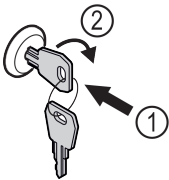

Fig. 103
- ▶ Insert key Fig. 103 (1).
- ▶ Turn key clockwise by 90° Fig. 103 (2).